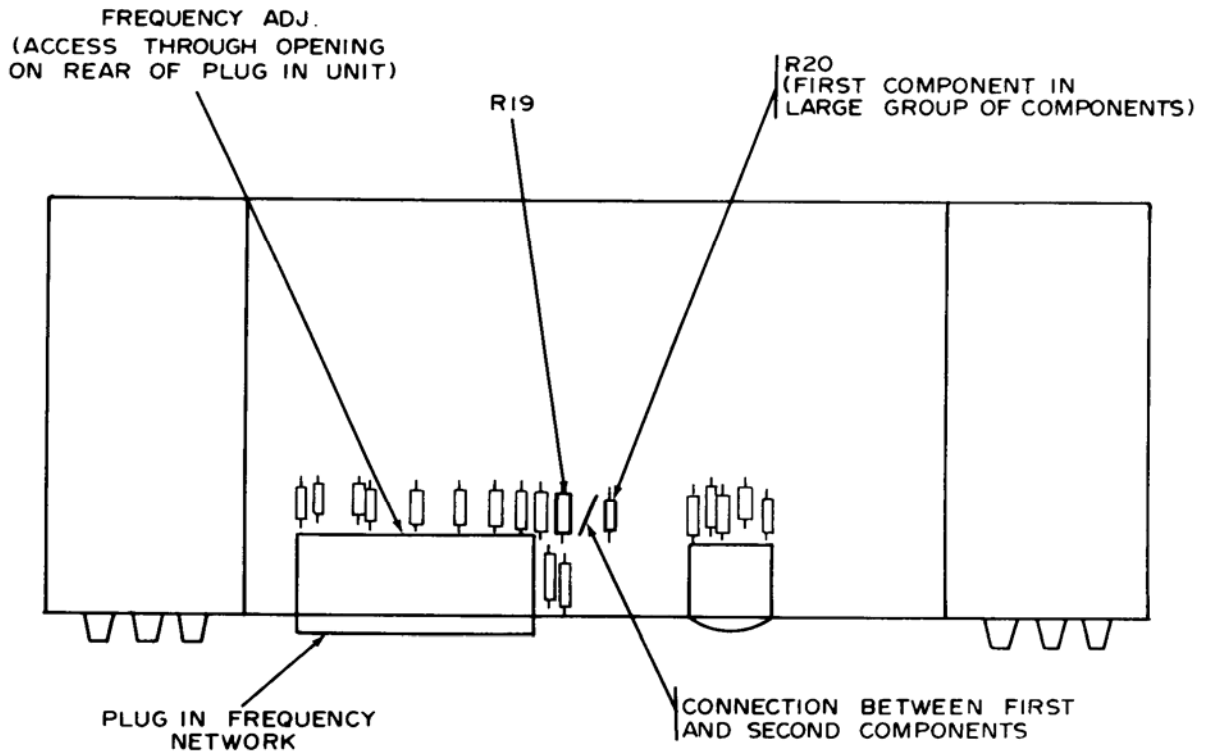

Figure 2. Ac generator detector - top interior view.
- (1) Rotate **GEN VOLTAGE** control fully ccw to **OFF**.
- (2) Connect lead from chassis to one end of R20 (fig. 2).
(11) Remove frequency counter and cable from equipment setup and lead and adapters connected in (2) above.
(12) Move cable from function/arbitrary generator output terminals and connect to TI **GEN OUTPUT** terminals.
(13) Adjust **GEN VOLTAGE** control for half-scale indication on multimeter.
(14) Adjust **FREQUENCY ADJ** control (fig. 2) for peak indication on multimeter.